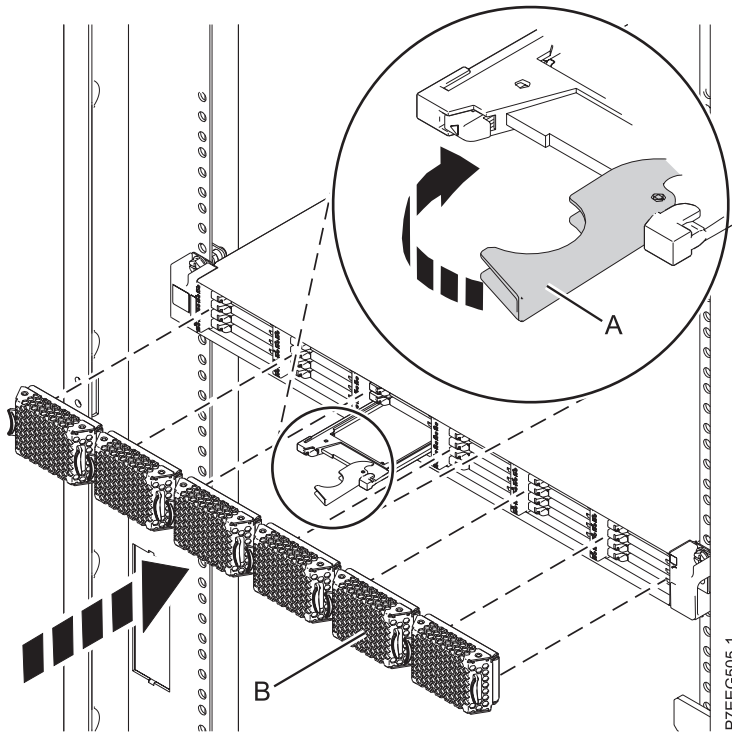

Figure 45. Replacing a solid-state drive in the EDR1 PCIe storage enclosure.
3. Rotate the handle (A) to the locked position, as shown in Figure 45.
4. Install the bezel (B).